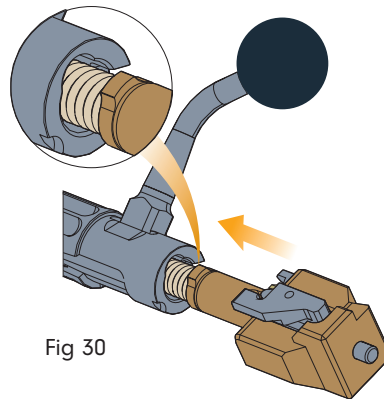

Fig 30
- To reassemble the bolt, insert the firing pin/shroud assembly into the bolt body, aligning the shroud retaining lug with the corresponding opening in the bolt body (see Fig 30).